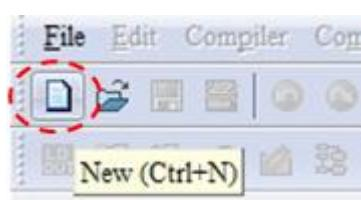

Figure 16-11
Step 3. To open a new project file, on the Toolbar, click the New button (or press Ctrl+N) (see Figure 16-11).